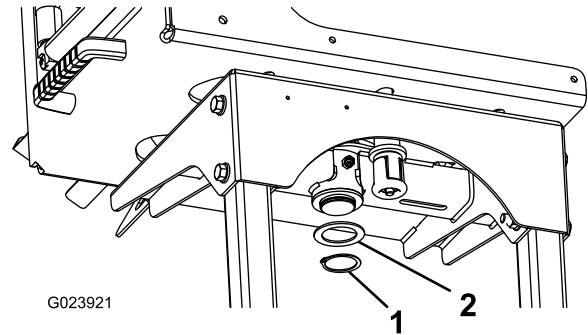

Figure 5
4. On the underside of the hose-reel frame, attach the thrust washer and snap ring to the post on the swivel plate (Figure 5).